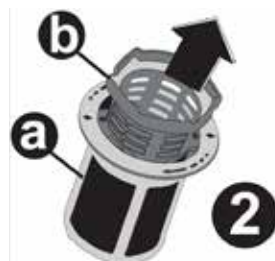

Fig. 14
- Remove the coarse filter from the micro-filter (Fig. 14).
Figures 14 and 15 **on page 25** show the recommended installations of our dishwashers. The set-ups in these figures should be mimicked wherever possible to help to ensure the best performance of the appliance. **Please carry out the below checks/measures before, during and after installation.**